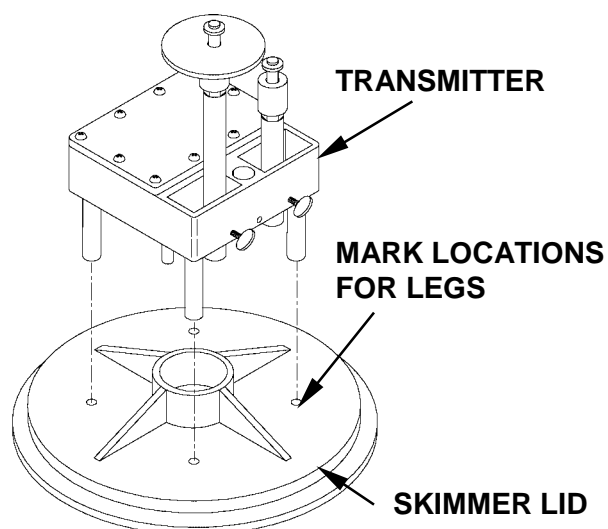

Figure 2-4. Test fitting Transmitter to Skimmer Lid
3. Refer to figure 2-4 and test fit the transmitter float assembly to the skimmer lid.